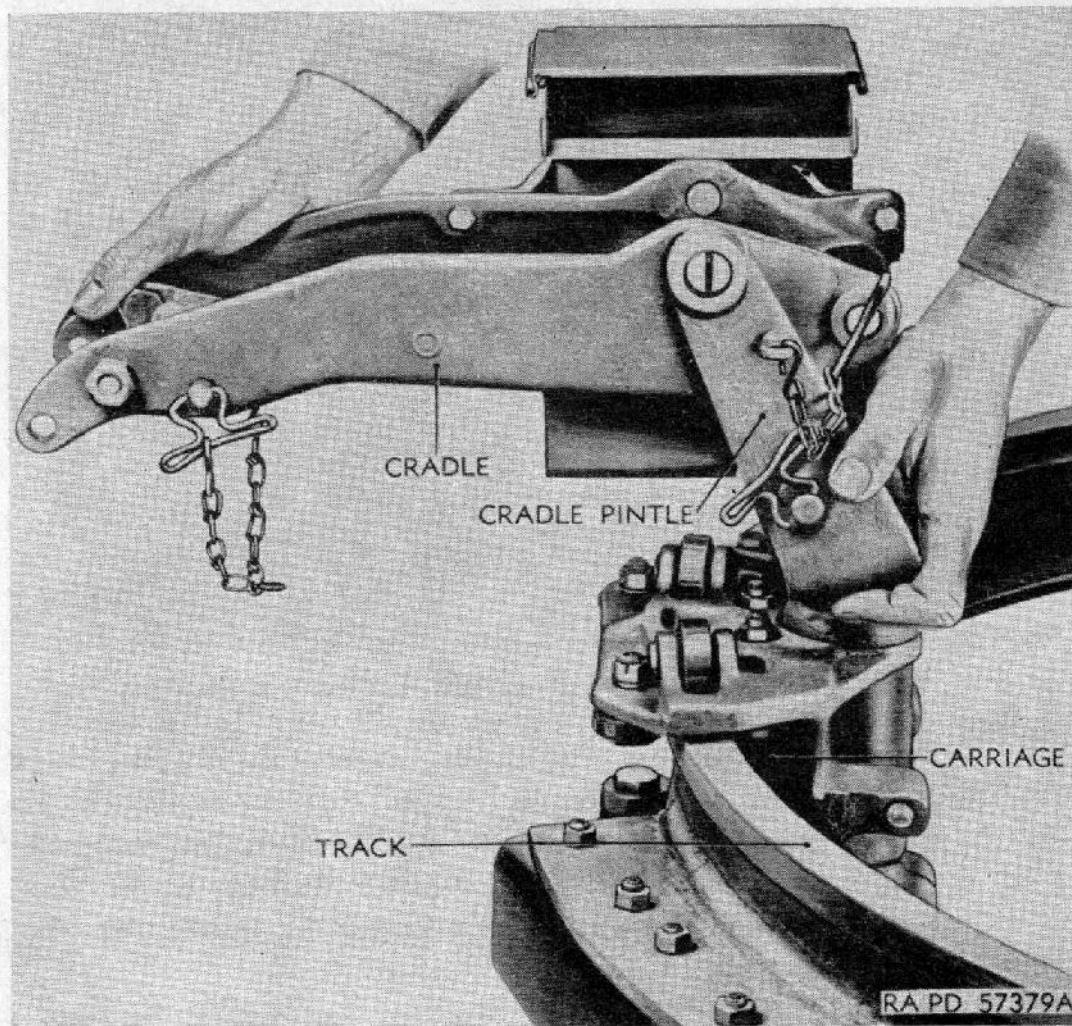

Figure 171. Installing the cradle and pintle on the carriage.
- (1) Place the cradle with the pintle on the carriage and rotate it until it snaps into position (fig. 171).